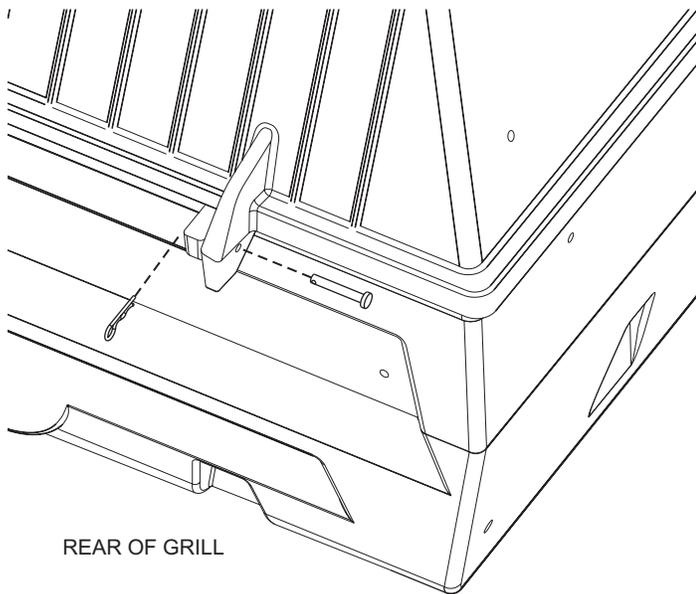

Figure 13
1. Secure the grill body top to the grill body bottom by replacing the two hinge pins and clips. See Figure 13.